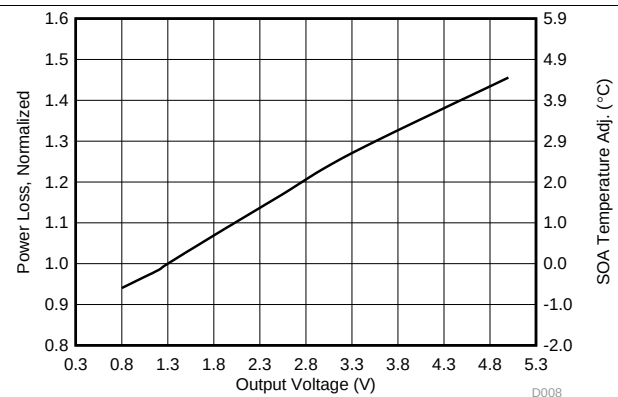

Figure 6. Normalized Power Loss vs Output Voltage
- Normalized power loss for output voltage ≈ 1.07 (Figure 6)
- SOA adjustment for output voltage $\approx 0.68^\circ\text{C}$ (Figure 6)